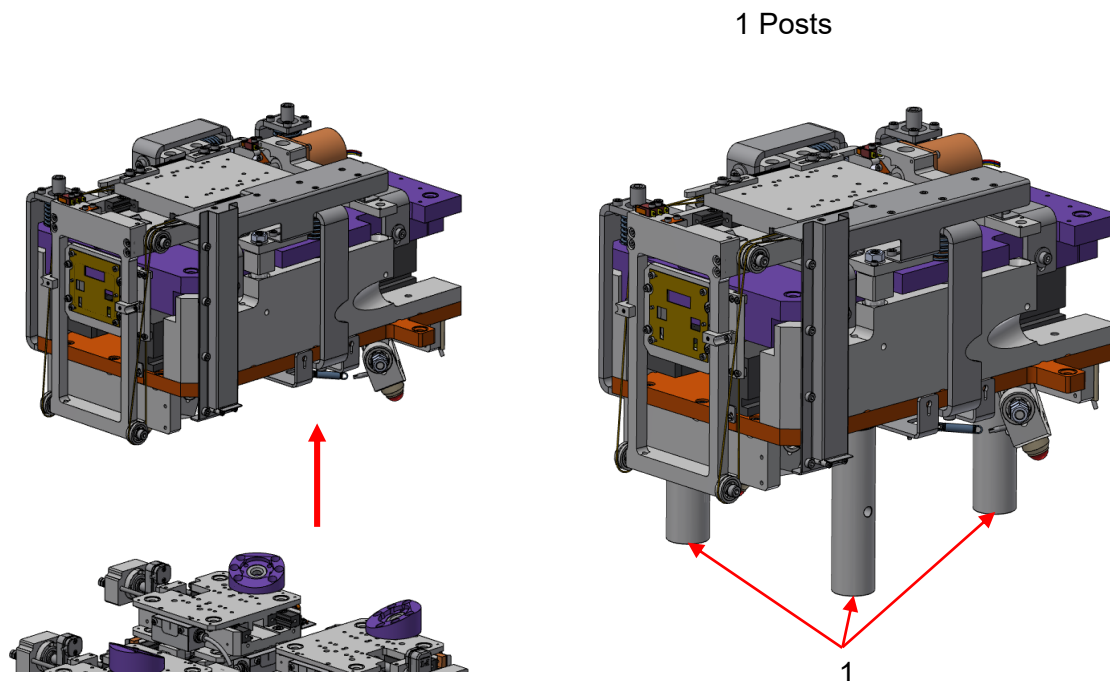

Figure 55: Upper part of the tripod
- C. Carefully lift up the upper part of the tripod, as illustrated in Figure 55, left side.